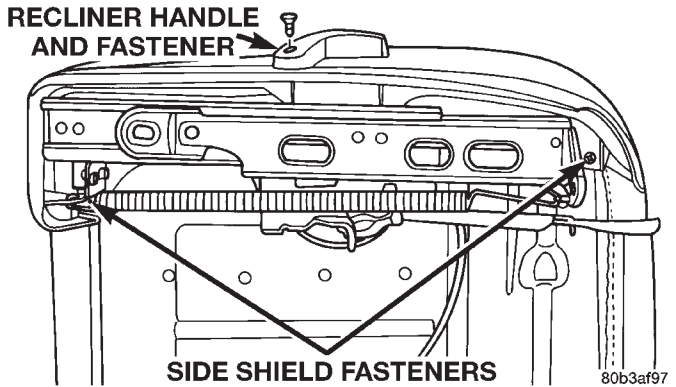
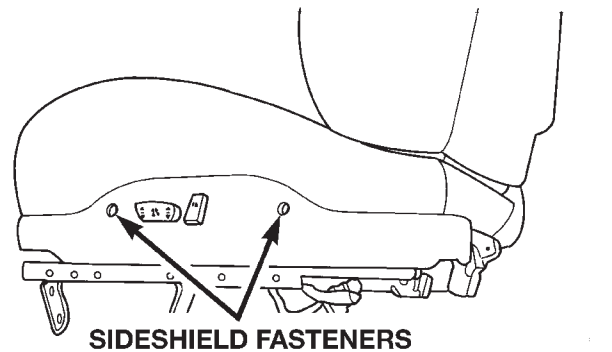

Fig. 3 Bottom View of Side Shield
Fig. 4 Side View of Side Shield
- (1) Remove seat from vehicle.
- (2) Remove screws attaching seat cushion side shield to the bottom and side of seat cushion (Fig. 3) and (Fig. 4).
- (3) Remove shield from seat
- (4) Disconnect switch wire connectors, if equipped.
- (5) Remove seat switches, if equipped.